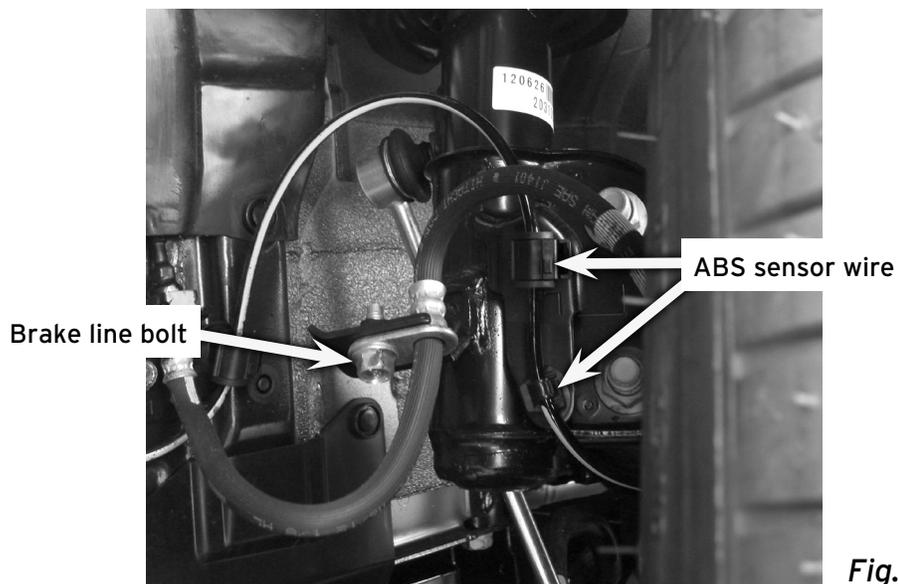

Fig. 3
1. Remove the bolt retaining the brake hose and unclip the ABS sensor wire. (Fig. 3)